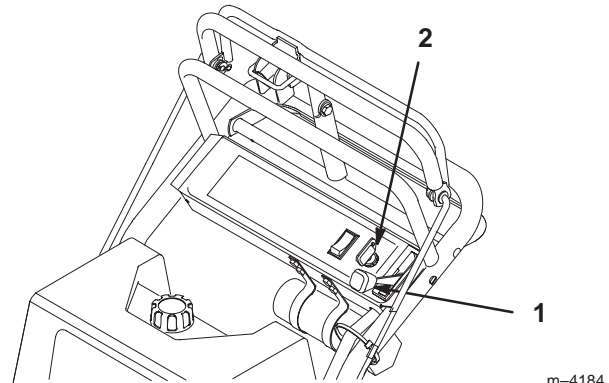

Figure 18
1. Move the throttle lever to slow (Fig. 18).
2. Turn the ignition key to off. (Fig. 18).